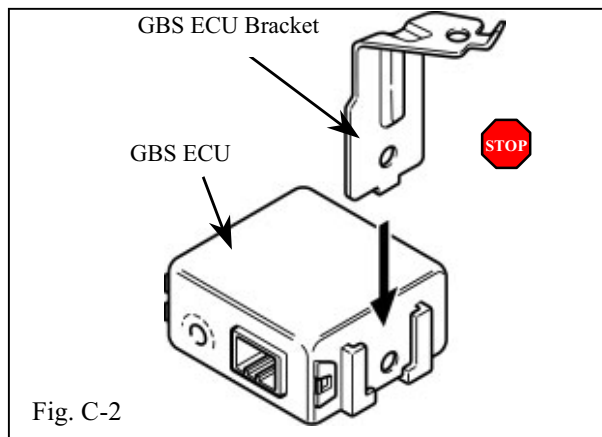

Fig. C-2
- 2. Insert the GBS ECU mounting bracket into the indicated bracket slot on the GBS ECU. (Fig. C-2)